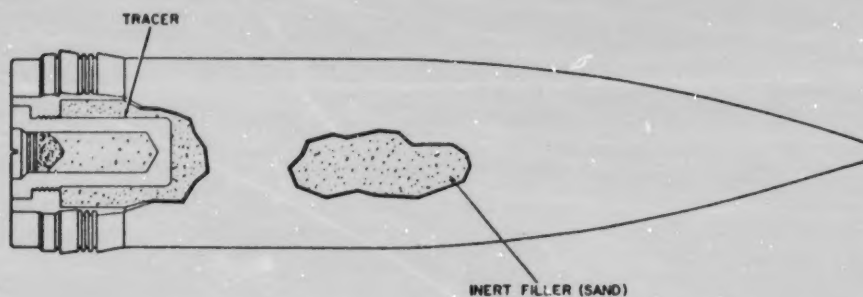

Figure 3-13.—Typical target projectile, sectional view.
c. Target projectiles (fig. 3-13), the use of which is indicated by the name, are similar in shape, weight, and balance to the corresponding service projectiles of the same caliber. Usually they are inert loaded, and older models may have a tracer.
Many types of projectiles, especially 40-mm and smaller are fitted with tracers (fig. 3-13) that burn during projectile flight, leaving a bright trail of light, for use in spotting. Tracers are especially valuable in antiaircraft fire control. In 40-mm ammunition, the tracer may be installed so that when it burns down to its end, it detonates the burster charge. The advantage of this self-destructing feature is obvious when AA projectiles are fired at such elevations that they might fall on friendly forces.